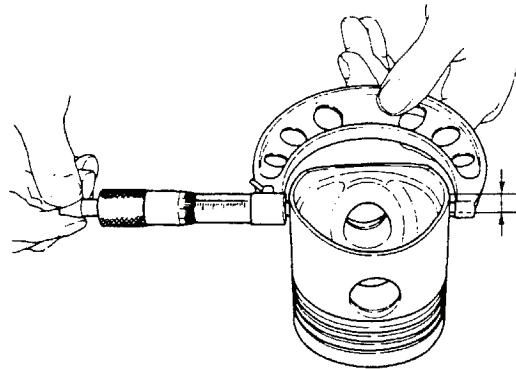

Figure 2. Piston Outside Dimension Measurement.
- b. Measure the piston outside diameter across the piston pin approximately 12 mm (0.47 inch) from the bottom end of the piston. Replace if less than 2.746 inch (69.70 mm). See Figure 2.